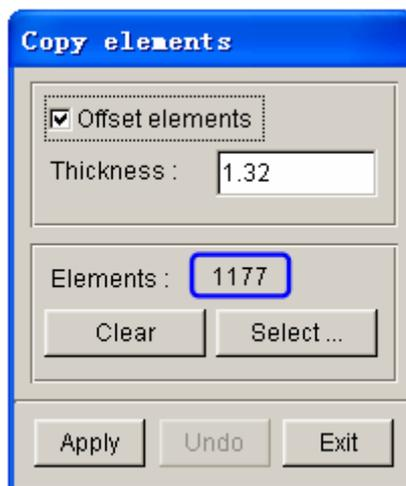

Figure 5.63 Copy elements dialog box
35. Click **OK** button to accept element selections and return to the COPY ELEMENTS dialog box. Now, **Apply** button is enabled, as illustrated in Figure 5.63.